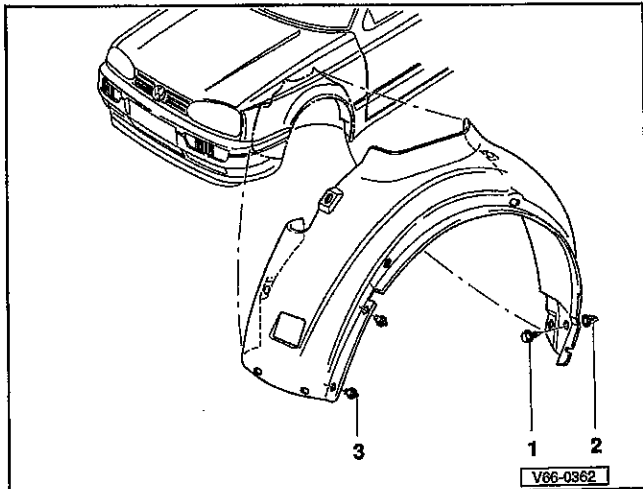

Fig. 1. Wheel housing liner mounting screw (1), expander nut (2), and expander rivet (3).
2. Remove seven screws from expander nuts. See Fig. 1.